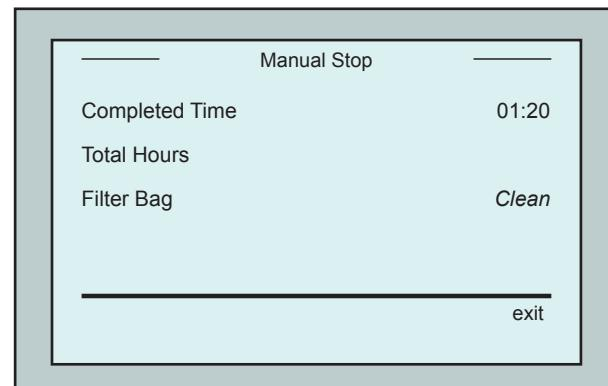

Figure 5: *Manual Stop screen*
1. From the *Countdown* screen (Figure 4), press **Stop**. The MMI screen displays the message: "Stopping robot – please wait". After 5 seconds the *Manual Stop* screen is displayed (Figure 5).